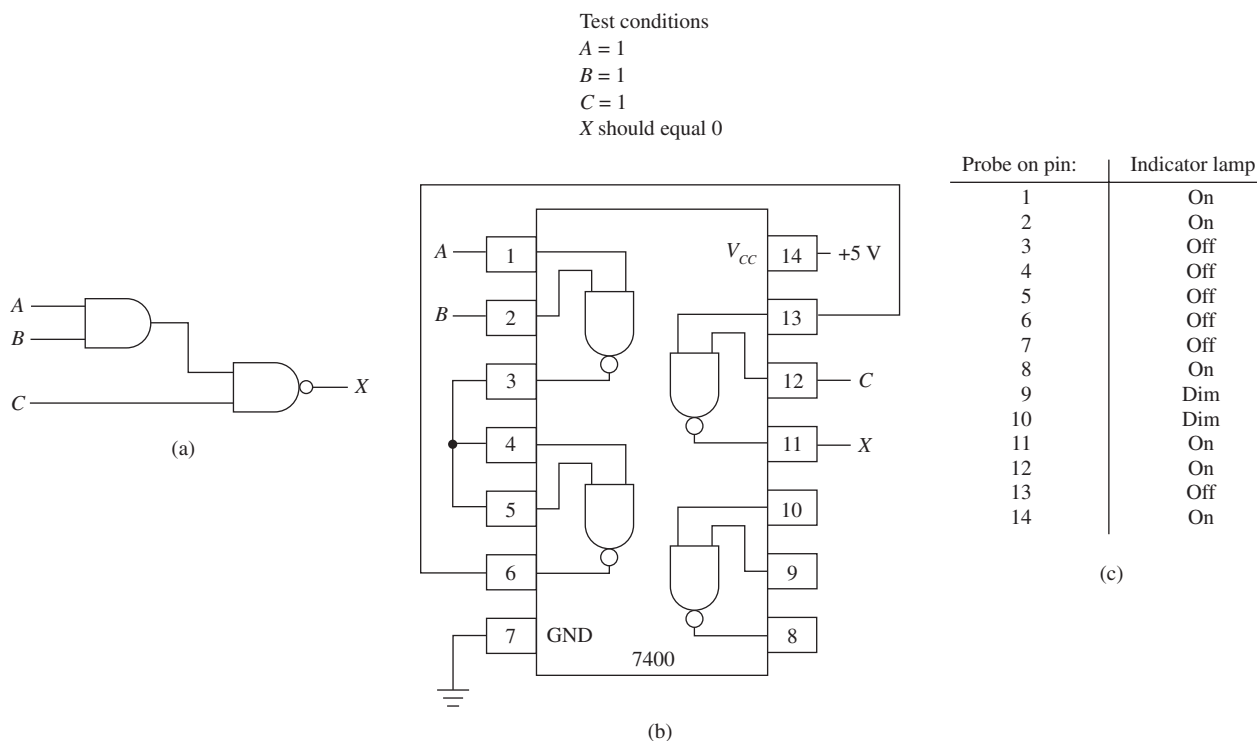

Figure P5-42
- T** **5-42.** The logic circuit of Figure P5-42(a) is implemented by making connections to the 7400 as shown in Figure P5-42(b). The circuit is not working properly. The problem is in the IC connections or in the IC itself. The data table in Figure P5-42(c) is completed by using a logic probe at each pin. Identify the problem.